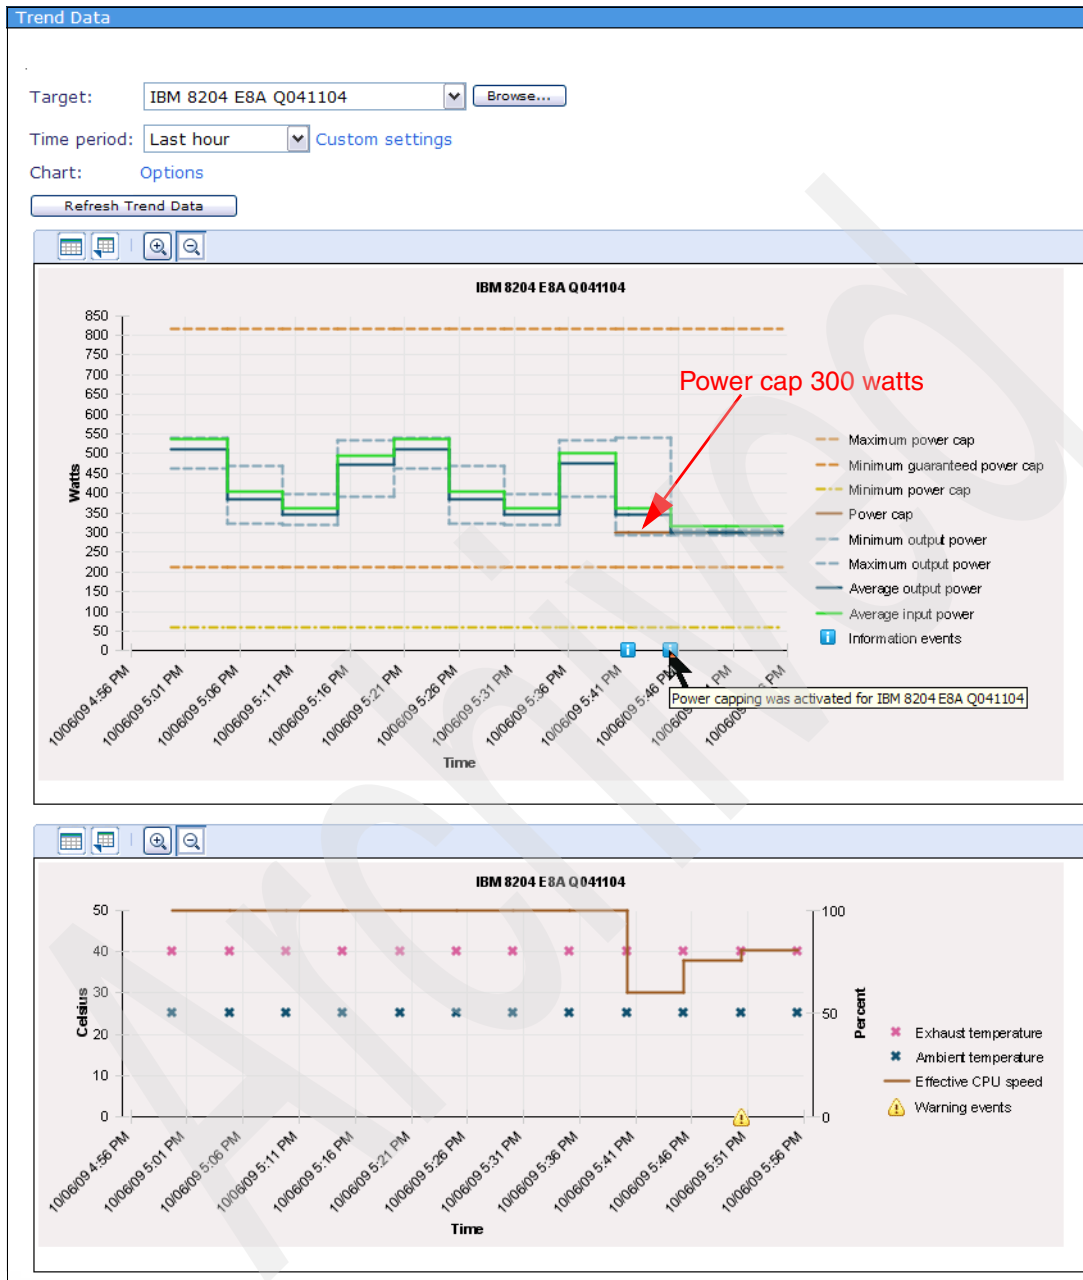

Figure 7-20 Setting a power cap for a single power managed system - 3
4. Figure 7-20 on page 312 shows an example of the trend data for a power managed system that has had a power cap set. It might take some time (a polling interval) for the change in power capping to be visible in the trend data. Notice the following features of the trend data chart: